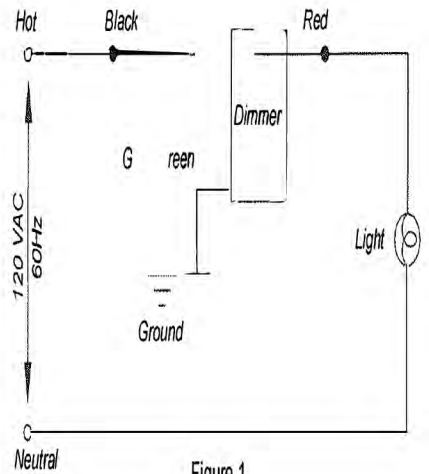

Figure 1
2. Connect the lead wires according to the wiring diagrams (see Figure 1, 2)